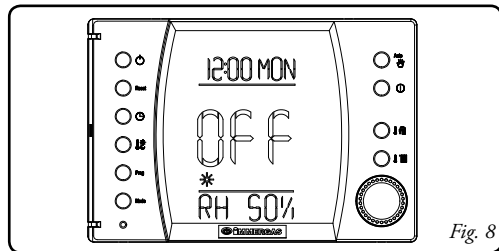

Fig. 8
- **Working in stand-by.** With Super CAR in the stand-by mode the word "OFF" appears on the display (see fig. 8). The boiler can work only if there is a room antifreeze request. In this state, however, the current day and time, any malfunctions, the weather forecast, the percentage of humidity and room temperature are all visually displayed.